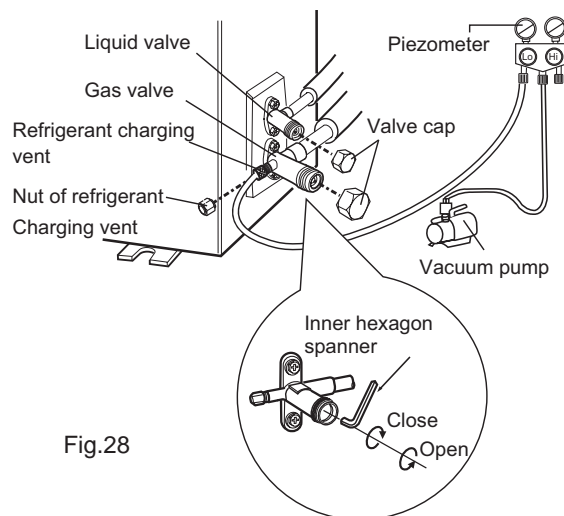

Fig.28
- (4) Close the vacuum pump and maintain this status for 1-2min to check if the pressure of piezometer remains in -0.1MPa. If the pressure decreases, there may be leakage.
- (5) Remove the piezometer, open the valve core of liquid valve and gas valve completely with inner hexagon spanner.
- (6) Tighten the screw caps of valves and refrigerant charging vent.(As show in Fig.28)